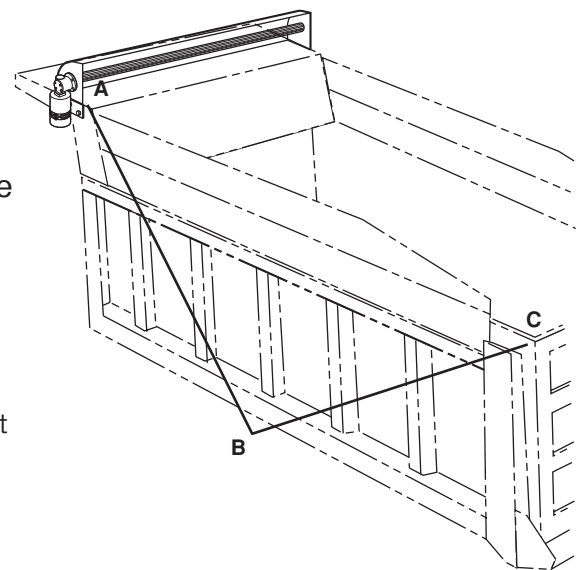

Figure 6
See figure 6
NOTE: See figure 6. Notice that the spring assembly (B) is one point of a triangle. The other two points (A & C) are on top of the truck. The two downward - pointing legs of the triangle must be the same length. These steps will make sure that the two legs are equal.
- 1) Mark the rear edge of the tarp housing or the mounting plate in line with the tarp roll up bar on the driver's side and passenger's side. Mark these points and call them (A).
- 2) Determine where you want the rear of the tarp to be when it fully **Figure 6** the box. Mark these points and call them (C).
- 3) **See Figure 6.** Find a point at the side of the box that is the same distance from A and C. This is point B, where the spring assembly will be mounted. Mark this point on both sides.